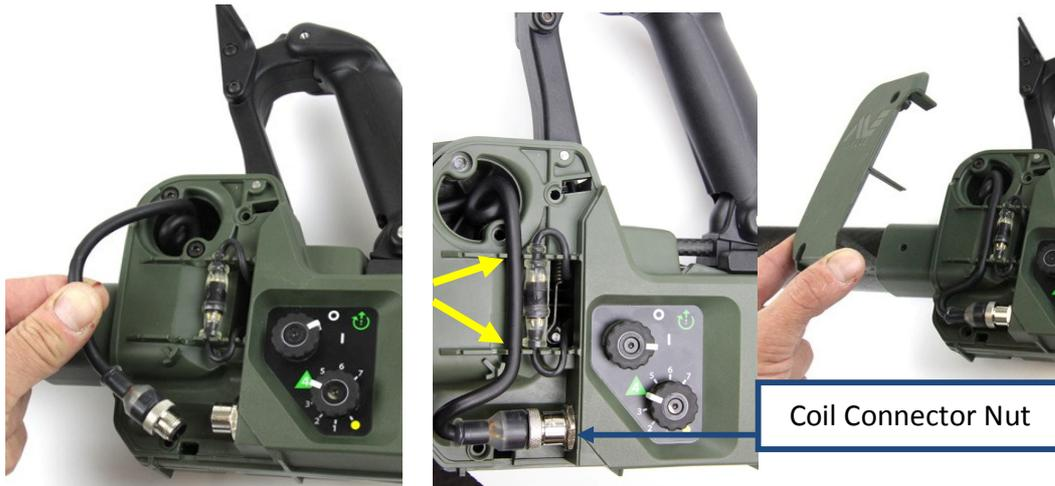

Figure 70: Connecting Coil Cable and Cover
- Connect the coil connector (Figure 70) and close the detector body described in Section 3.2 - Closing the Detector Body.